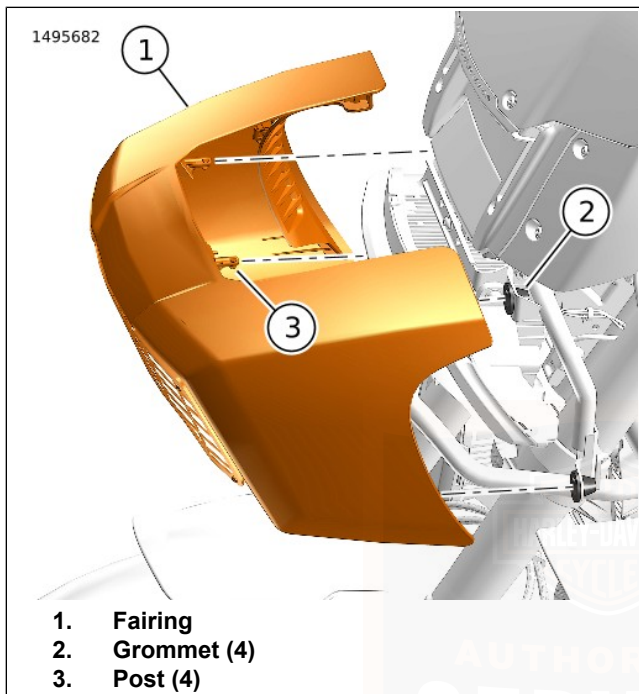

Figure 77. Fairing
1. See Figure 77. Remove fairing.
- a. Pull fairing (1) away from the grommets (2).
1. Figure 77 Install fairing.
- a. Align fairing posts (3) with grommets (2).
- b. Push fairing (1) into grommets.